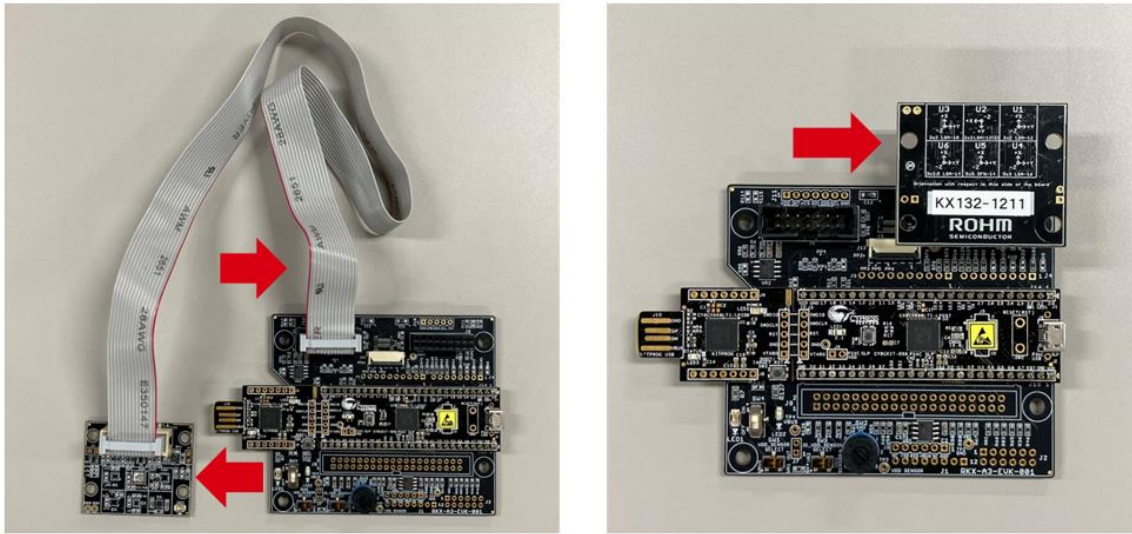

Figure 109. Interface with ROHM EVK EVB
- Evaluation sensor board is securely connected to the ROHM EVK EVB either directly or with the ribbon cable (*Figure 109*).